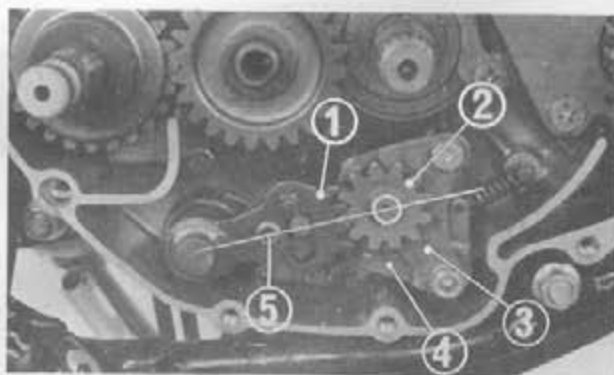

Fig. 3-52 (1) Gearshift arm (2) Drum shifter (3) Drum plate
(2) Gearshift return spring
7. Mesh the gearshift arm gear with the drum shifter gear by aligning them as shown in Fig. 3-52.